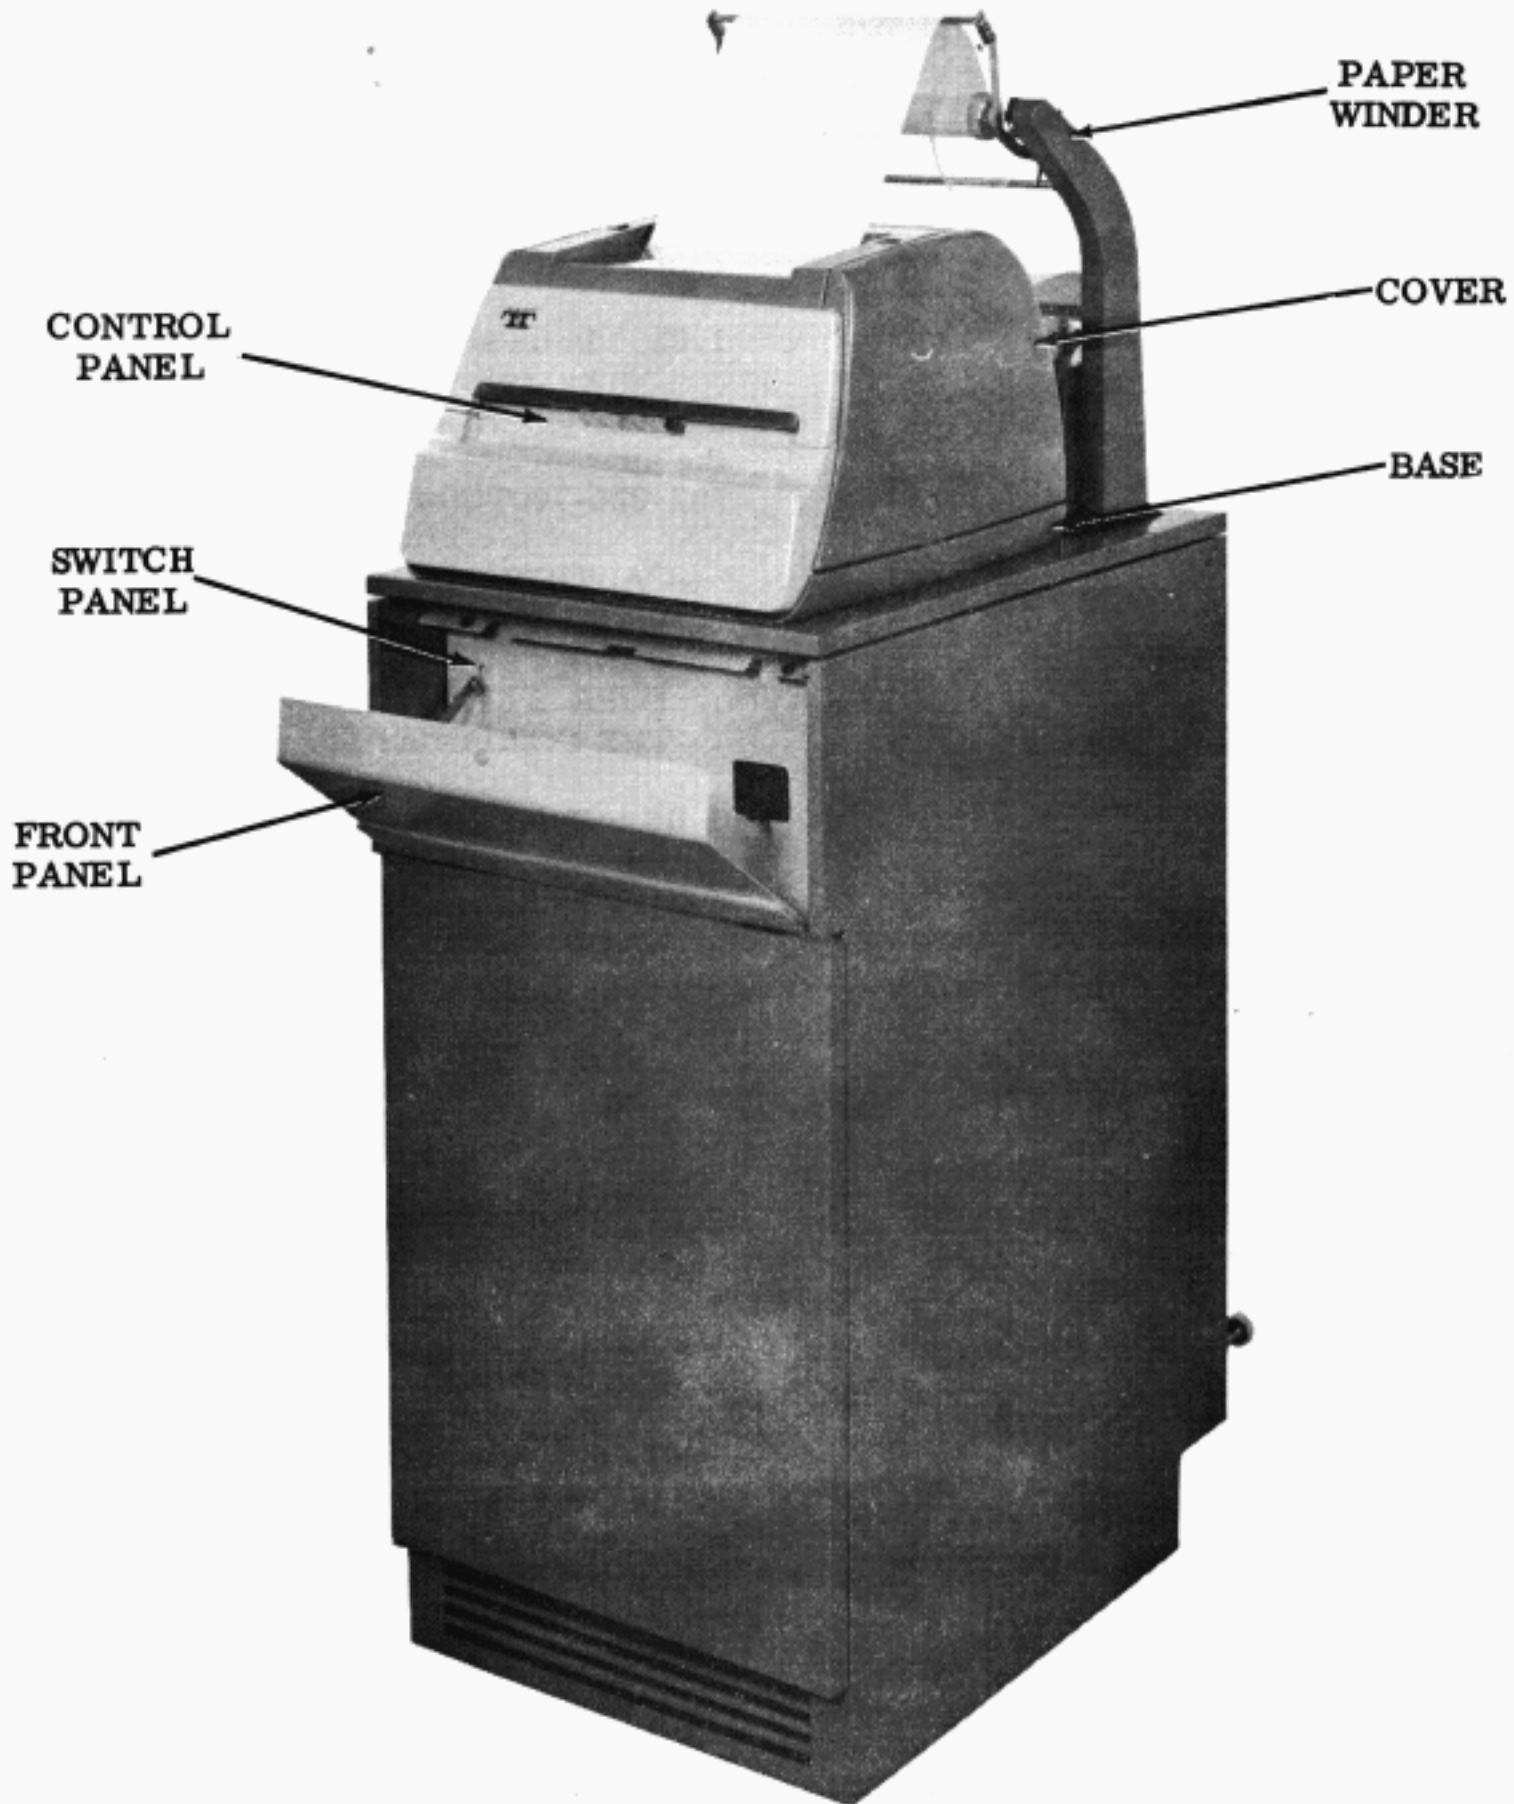

Figure 1 - INKTRONIC Page Printer (RO) With Blank Front Panel and Switch Panel
1.01 This section describes the method of removing and replacing the main components of the Receive-Only INKTRONIC Page Printer Set (RO), as illustrated in Figures 1 and 2. If further disassembly of these components is required, refer to the detailed illustrations of parts in Sections 592-820-800TC through 592-820-802TC. Also, for further disassembly of the recorder and paper transport mechanism, refer to Section 592-820-703TC.
2.22 If the printer has a blank front panel for use with a 202D or 402D data set, or for direct interface with a TELESPEED* installation (Figure 1), remove the front panel as follows: